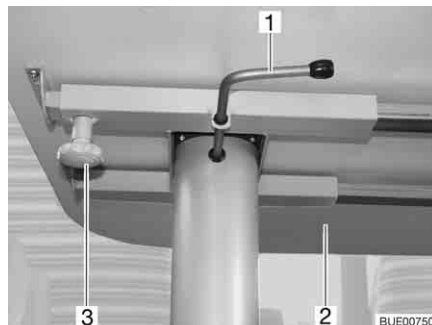

Fig. 63 Lift-off table, movable
- Loosen knurled screw (Fig. 63,3).
- Move table-top (Fig. 63,2) to the desired position.
- Swivel the catch lever (Fig. 63,1) to the left. The lock of the lifting mechanism is open.
- Press table-top (Fig. 63,2) in the middle down to the stop limit and hold it down.
- Swivel the catch lever (Fig. 63,1) to the right (Fig. 63). The lifting mechanism is locked.
- Swivel the catch lever (Fig. 63,1) to the left. The lock of the lifting mechanism is open. The table-top moves upwards to the limit stop.
- Swivel the catch lever to the right (Fig. 63). The lifting mechanism is locked.